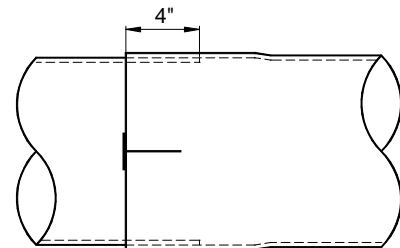

Figure 5
- 9) While aligning the notch and mark, insert the male end into the belled until the mark meets the edge of the belled pipe (approximately 4"). **See Figure 5.** Position next section of pipe in Pipe Support Bracket and continue assembly by repeating Steps 6 - 9 until complete. Making sure to keep all the notches aligned.